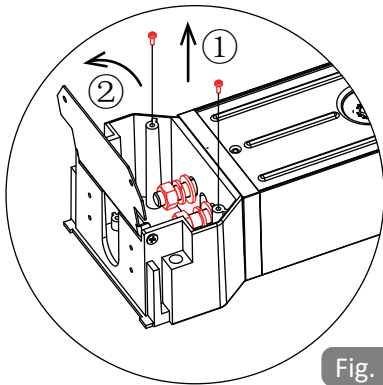

Fig. 1
**Step 1:** Please remove the two M4×10 pan head Phillips screws on the wiring cover and open it. Then, secure the mounting base to the bottom of the LFXU fixture in the order of Flat washer → Spring washer → Nut (included in the LFXU light fixture's accessory pack). See fig.1